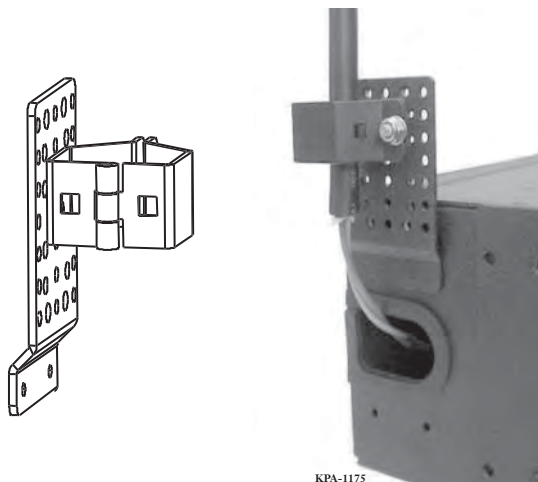

Figure 10
- Attach the clamp to the strain-relief bracket as shown in Figure 10.